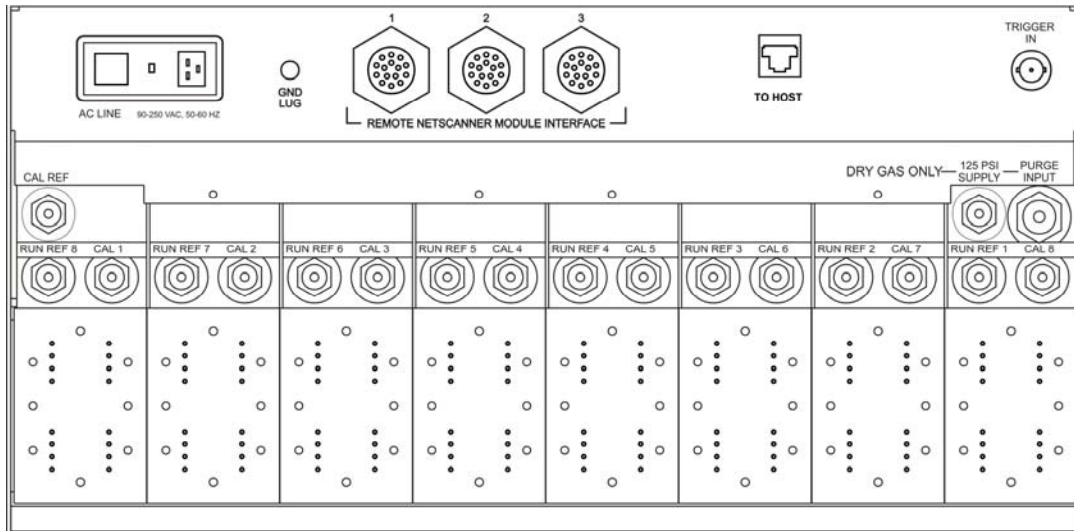

Figure 2.2
Pneumatic connections for the sixteen (16) measurement inputs of the Model 9816 Intelligent Pressure Scanners installed in the **98RK-1 Scanner Interface Rack** may be found either on the backplane of the **98RK-1** chassis or on the 9816 front plate, depending on the particular configuration you ordered. Additional control, purge, and calibration inputs are found on the rear of the **98RK-1**. The function of each input port is clearly engraved or printed next to each input (see **Figures 2.2, 2.3 and 2.3a**, next page). Connections are through bulge tubing, compression fittings, or special user-supplied fittings on the tubing plate. All pneumatic inputs to these modules should contain dry, non-corrosive gas only.
The 98RK-1 chassis requires an 80 psig minimum (125 psig maximum) dry **air** (or inert gas) supply which is used to shift the 9816 internal calibration valve (in each scanner) between its different positions. Each 98RK-1 contains a fitting marked "**SUPPLY**" for this input (see **Figure 2.2**, previous page). Internal solenoid valves in each 9816 scanner direct this supply pressure to the proper control port on the calibration valve as required by instrument commands. The absence of sufficient supply air to the module will prevent the calibration valve from shifting into requested positions (i.e., **RUN**, **CAL**, **PURGE**, or **LEAK-CHARGE**). The pneumatic input manifold (on the rear of the chassis) contains an additional two transducers to read the supply and purge air pressures.